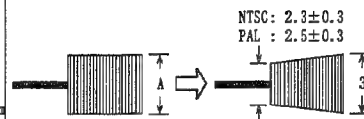
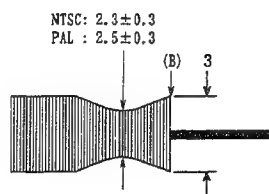

Fig. 3-4
Fig. 3-5
3-3. Supply/Take-up Guide Roller Height Adjustment (Figs. 3-4, 3-5)
<p>Adjustment procedure</p> <p>Caution: Before performing this adjustment, refer to Fig. 6-1 and modify the ATF-R jig. Connect the ATF-R jig before supplying power.</p> <p>1) Load an alignment tape that has been completely rewound. Press the PLAY button and hold it, then set the POWER switch to VIDEO position.</p> <p>2) Connect an oscilloscope to TP3 on the ATF-R jig.</p> <p>3) Synchronize the oscilloscope with TP1 (SW25/30) on the ATF-R jig.</p> <p>4) Set the oscilloscope to (+) slope.</p> <p>Supply Guide Roller (Fig. 3-4)</p> <p>5) Press SW2 on the ATF-R jig and hold it, then perform the following steps.</p> <p>6) Adjust the height of the supply guide roller so the waveform is flat.</p> <p>7) Adjust the voltage level control of the oscilloscope so that portion (A) of the waveform is set to 4 graduations.</p> <p>8) Set SW1 on the ATF-R jig to ON.</p> <p>9) Turn RT1 on the ATF-R jig counterclockwise so the voltage at point (C) on the ATF-R jig is $1.8 \pm 0.1V$. Then check that point (B) of the waveform is set to 3 graduation.</p> <p>10) Adjust the height of the supply guide roller so minimum amplitude of the waveform is set to NTSC: 2.3 ± 0.3 / PAL: 2.5 ± 0.3 graduations.</p> <p>Take-up Guide Roller (Fig. 3-5)</p> <p>11) Set the oscilloscope to (-) slope.</p> <p>12) Adjust the voltage level control of the oscilloscope so that portion (B) of the waveform is set to 4 graduations.</p> <p>13) Turn RT1 on the ATF-R jig counterclockwise so the voltage at point (C) on the ATF-R jig is $1.8 \pm 0.1V$. Then check that point (B) of the waveform is set to 3 graduation.</p> <p>14) Adjust the height of the take-up guide roller so the minimum amplitude of the waveform is set to NTSC: 2.5 ± 0.3 / PAL: 2.3 ± 0.3 graduations.</p> <p>Caution: After adjustment is completed, be sure to reverse the modification to ATF-R jig.</p>